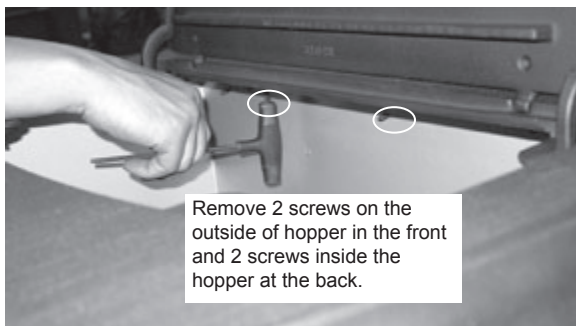

Figure 22.1
- d. Remove cast top from appliance. Two fasteners are located outside the hopper on each side. The other two are located in the hopper along the back. **Figure 22.1.** Remove the rear screen of the appliance (be sure the vent is disconnected) by removing the seven screws. Lift slightly upwards as to not damage the hopper switch and set aside.